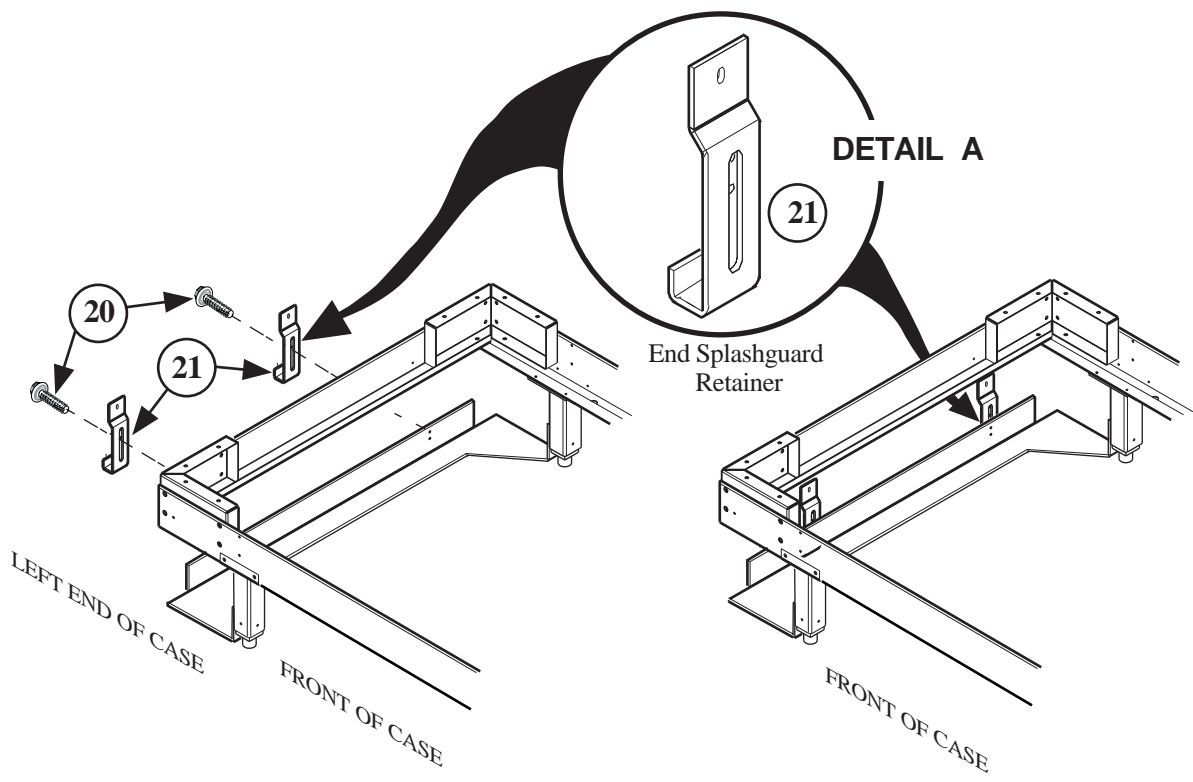

Figure 6. Installing Splashguard Retainers
- B. Attach **(2) Splashguard Retainers – 21** to End Bracket using **(2) Hex Head Sheet Metal Screws – 20**, (see Figure 6, Detail A).